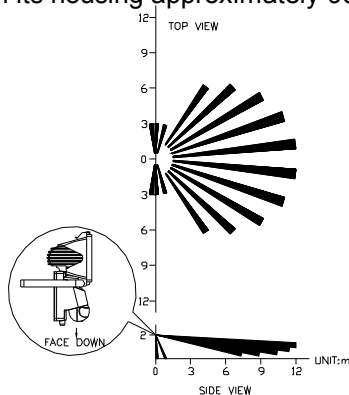
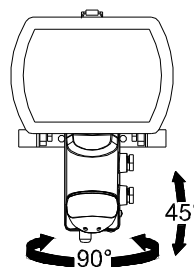

FIGURE 5
FIGURE 6
Select a mounting location for the unit that will give the best results based on the coverage area shown in FIGURE 5.
- To give more control of the coverage area the PIR sensor has an adjustment feature. The PIR sensor can be rotated in its housing approximately 90 degrees horizontally and 45 degrees vertically (FIGURE 6).
- Adjust the PIR sensor to cover the desired detection area. See CHOOSING A MOUNTING LOCATION (FIGURE 5) and (FIGURE 6) for details.